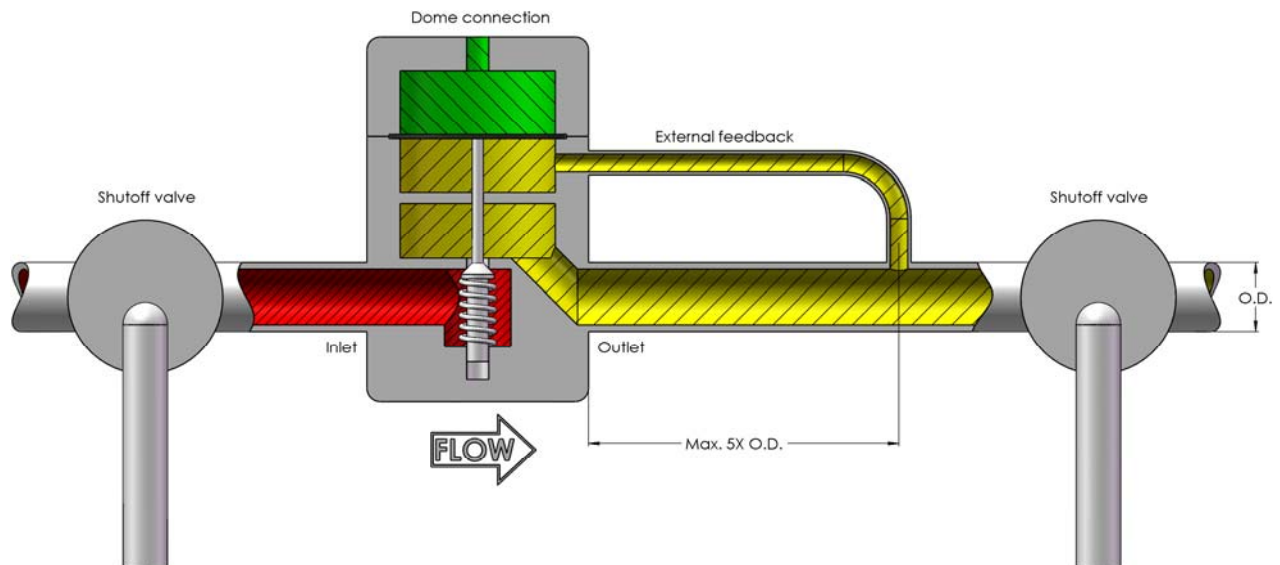

Fig 1
- The external feedback line is to be connected in a turbulence-free zone in the downstream piping, at a maximum distance of 5x the outside diameter of the downstream tubing/piping (Fig 1).